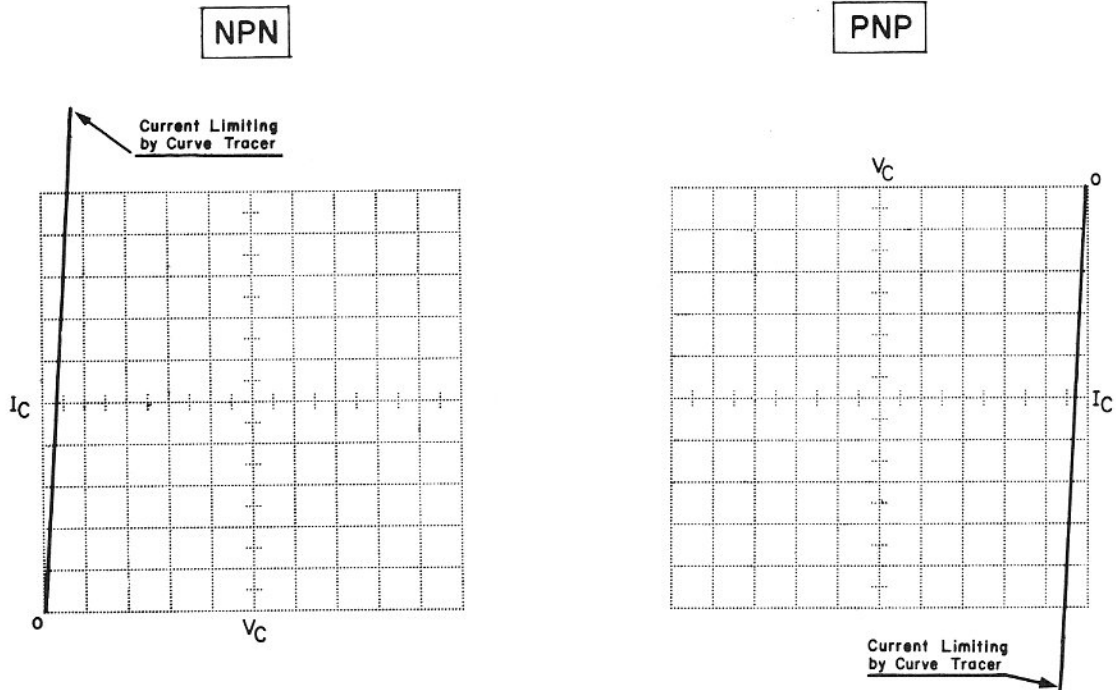

Figure 12. Shorted Transistor Curves
- If the transistor is shorted there will only be a vertical trace (see Figure 12). The current (vertical trace) increases sharply to the current limiting value determined by the curve tracer. There is no family of curves, since the value of base current applied has no effect.